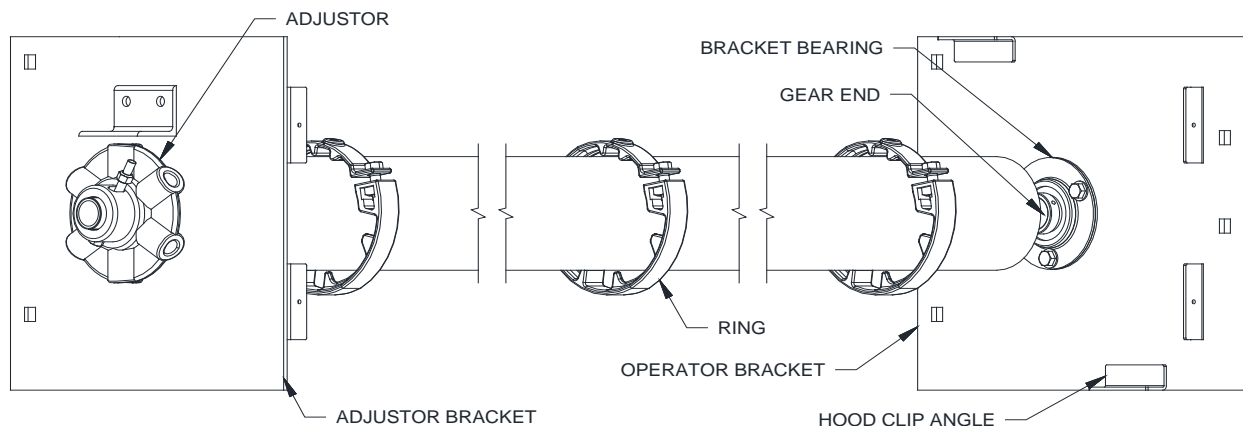

Figure 6.4 – Brackets and Barrel Prior to Installation
9. Locate the brackets. Determine the “operator” and “adjustor” brackets by referring to **Figure 6.4**. The “operator” bracket may vary significantly based on the operation of the door. The “adjustor” bracket will contain a label with spring adjustment instructions.